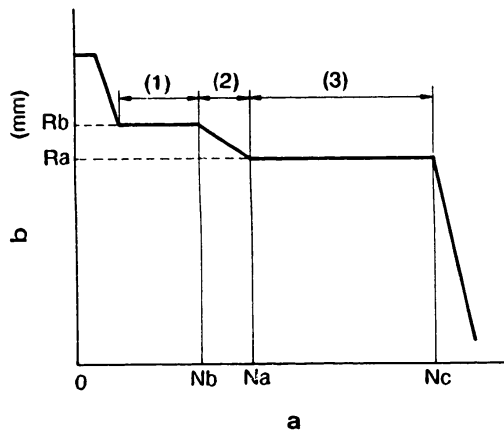
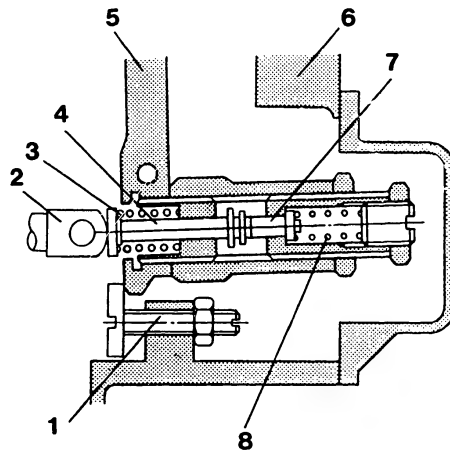
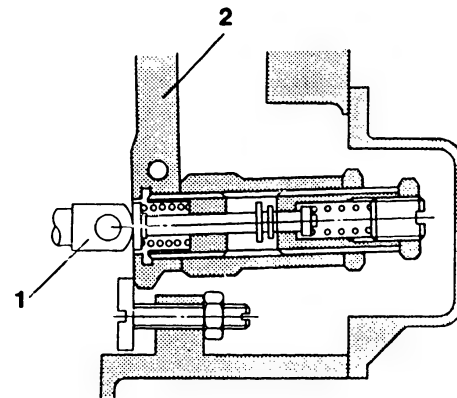

Fig. 32
Fig. 33
Fig. 34
If the pump speed is Nb with the speed control lever held at the maximum speed stopper position and the load control lever held at the full load position, the centrifugal force generated by the flyweight becomes less than the set force of the torque control spring, and therefore the shifter cannot compress the torque control spring (refer to Fig. 32 (1), Fig. 33).
This motion continues until the shifter contacts the tension lever, and is called the torque control stroke (refer to Fig. 32 (2), Fig. 34).
After the shifter directly contacts the tension lever, the set force of the governor spring is greater than the centrifugal force generated by the flyweight; therefore, the tension lever cannot be moved (refer to Fig. 32 (3)).